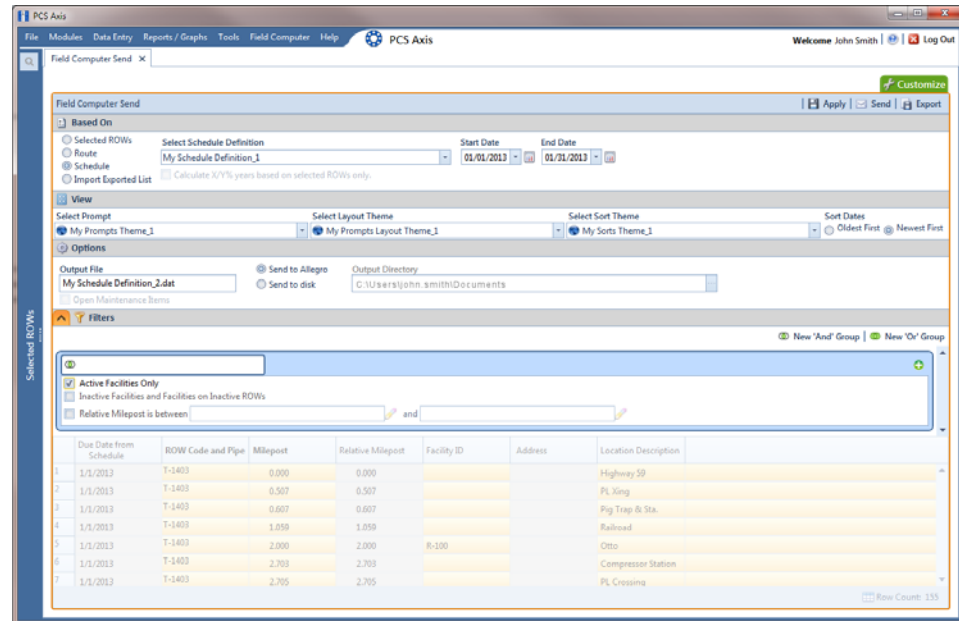

Figure 13-11. Filters
- 14** Click the  **Filters** button to open the *Filters* panel (Figure 13-11).